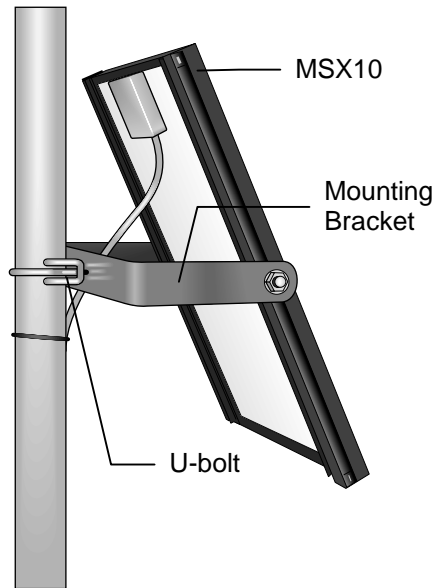

FIGURE 3.1-6. MSX10 Solar Panel on CM6 or CM10 Tripod
1. Mount the MSX10 solar panel to the tower so that it faces south (northern hemisphere) as shown in Figure 3.1-6 or 3.1-7. Position the MSX10 as high off the ground as practical, ensuring that it cannot interfere with air flow or sunlight around the sensors.